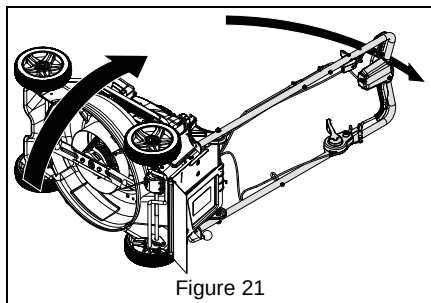

Figure 21
7. Rotate unit onto its right side. Make sure unit is secure and will not tip. See Figure 21.